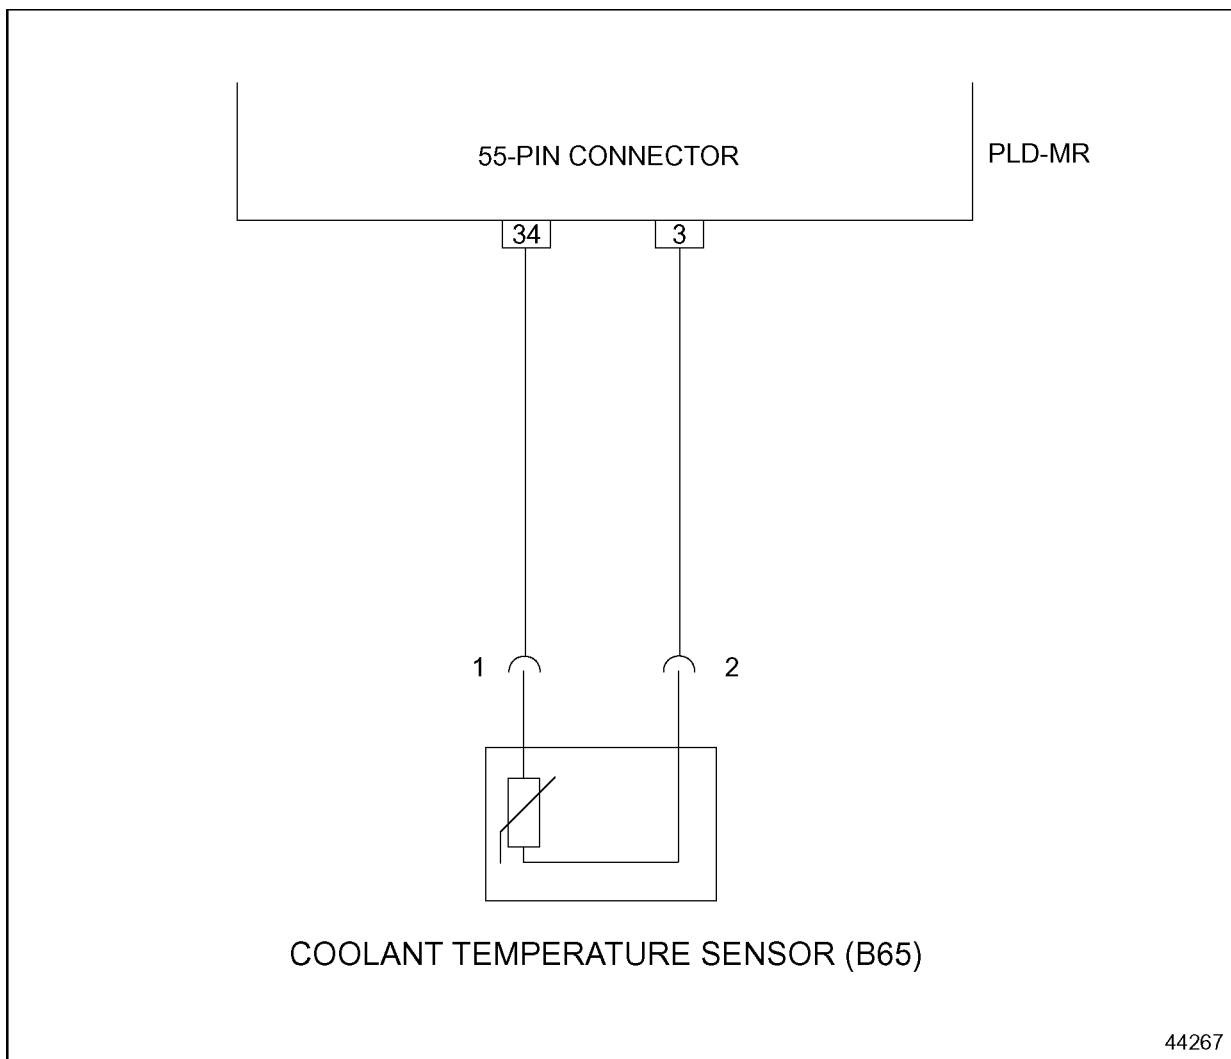

Figure 10-4 Engine Coolant Temperature Sensor Wiring
- [b] If more than 4.5 V, repair short to vehicle system power in 55-pin connector wire 34 to pin 1 of the Engine Coolant Temperature sensor. See Figure 10-4. Erase fault code memory.